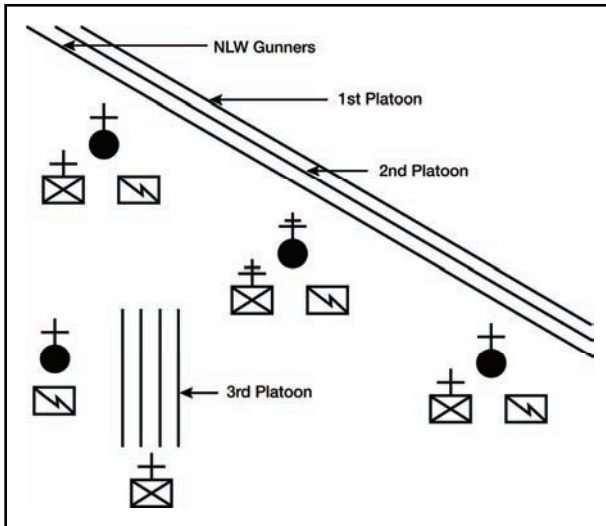

Figure 191-410-0078-9. Company echelon right (or left) in mass formation with one platoon in general support
j. Form the company into a company wedge formation with two platoons in general support (figure 191-410-0078-10).